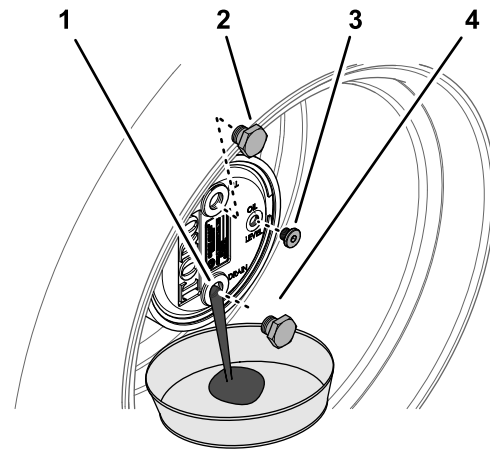

Figure 62
3. Place a drain pan under the planetary hub, remove the drain plug at the 6 o'clock position, and allow the oil to fully drain (Figure 62).
5. Install the drain plug into the drain hole of the planetary housing (Figure 62).
2. Remove the fill plug at the 12 o'clock position and the check plug at the 3 o'clock position (Figure 62).